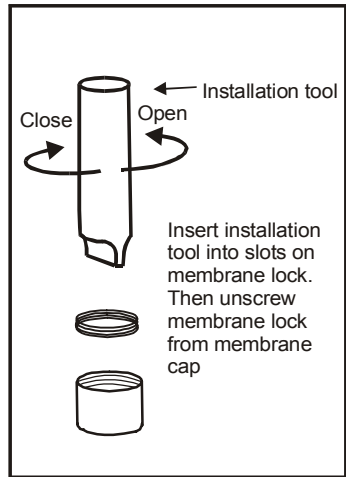

Figure 44: Use tool to take out (or put in) membrane
5. Using the installation tool, unscrew and remove the membrane lock from the membrane cap. See Figure 44.